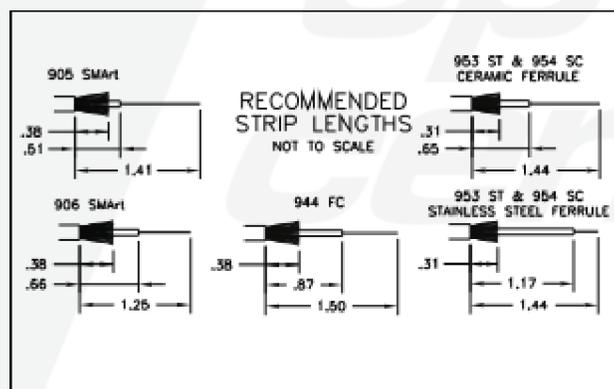

Figure 2: Recommended strip length
3. Twist the Kevlar strength members with the thumb and forefinger tightly and cut with a pair of snips - use Figure 2 as a guide.
4. Mark the appropriate buffer strip length (figure 2) using a felt tip pen. Do not use a hard tip pen as this may damage the fiber.